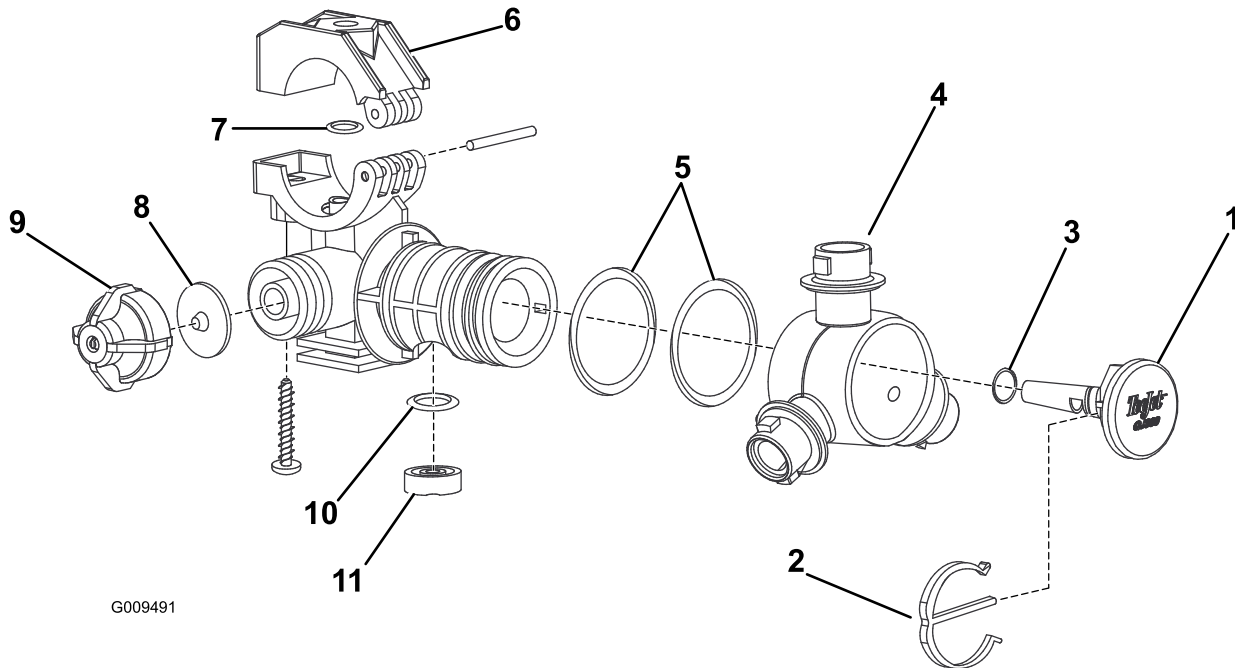

Figure 3
1. Disassemble turret sprayer as shown in Figure 3.
- B. If your turret sprayer revision level is "QJ360C", and the Viton seal and O-ring at the base of the turret needs to be replaced then open the small bag with part number 108-3266. Install the Viton seal and O-ring and seal as shown in Figure 3.